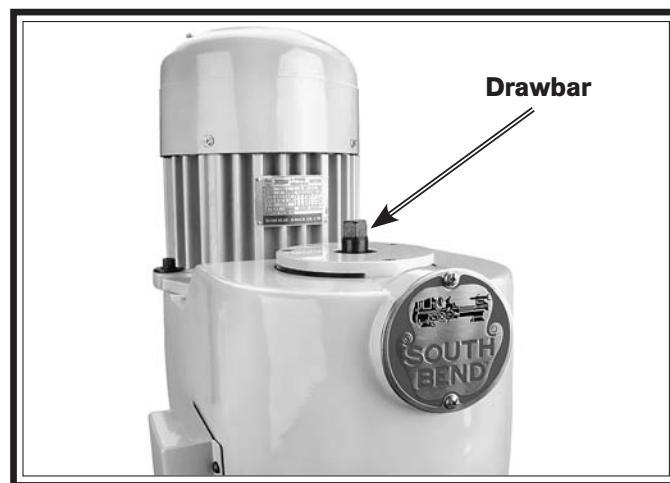

Figure 47. Drawbar loaded into the spindle.
5. With one hand holding the tool in place, insert the drawbar into the spindle from the top of the head, then thread it into the tool (see **Figure 47**).